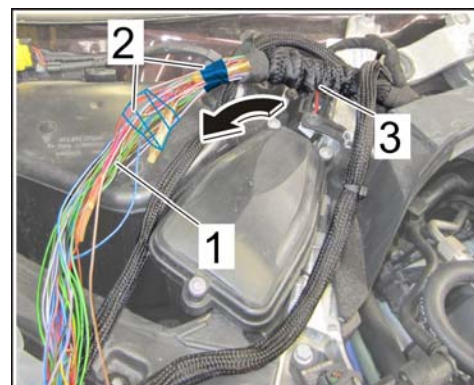

Figure 14
- 13 Wrap all lines ⇒ *Figure 14 -1-* with fabric tape ⇒ *Figure 14 -2-* and then pull the protective sleeve on the wire harness ⇒ *Figure 14 -3-* back into its original shape ⇒ *Figure 14 -arrow-*.